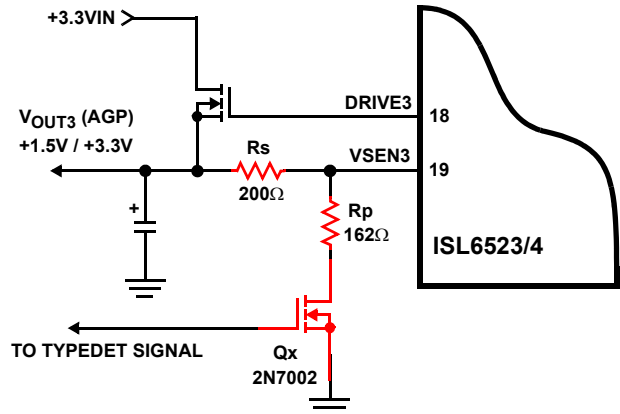

FIGURE 9. ISL6523, ISL6524 UNIVERSAL AGP SUPPORT IMPLEMENTATION
Same theory of operation applies to the circuit in Figure 9, with the exception that while Qx is off (low TYPEDET signal) the output is regulated to the internally-set 1.5V. A TYPEDET high signal turns on Qx and raises the output voltage to 3.3V. If AGP2X support is provided (3.3V output), remember that for a low voltage drop across the pass element, a low rDS(ON) MOSFET needs to be selected (Q4 in circuit schematics).